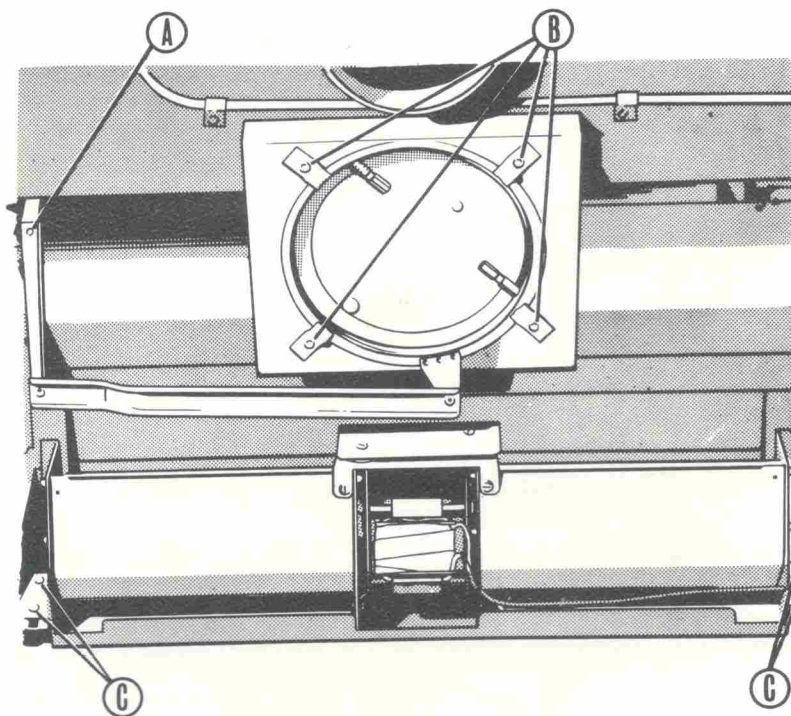

Fig. 27
3. The airflow unit may now be removed (as shown in A, Figure 27 below).
Removal of draught regulation assembly. See B1 and 2, Figure 27 below.